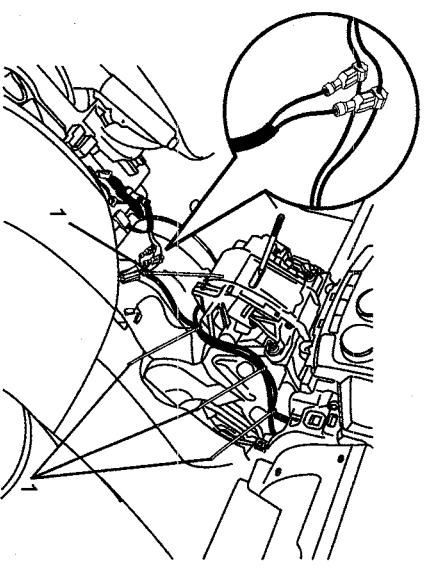

FIGURE 45
- 2.) CONNECT THE POWER HARNESS RED WIRE TO THE 3M CRIMP LOCK ON THE VEHICLE BLUE/BLACK WIRE. ATTACH THE BLACK WIRE TO THE 3M CRIMP LOCK ON THE VEHICLE BLACK WIRE. (SEE FIGURE 45 )
- 4.) SECURE THE POWER HARNESS TO THE VEHICLE AUDIO HARNESS USING FOUR TIE WRAPS (1). (SEE FIGURE 45 )